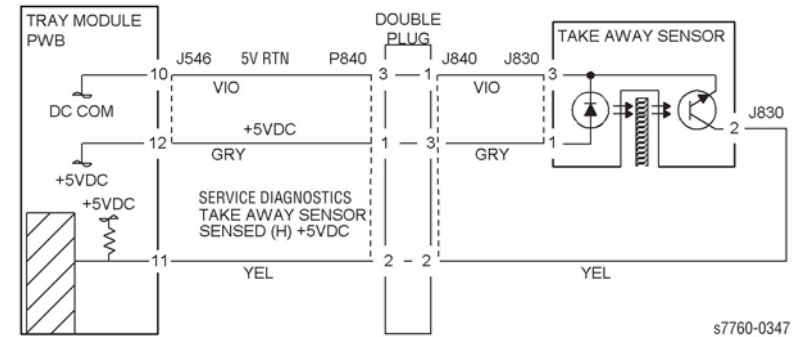
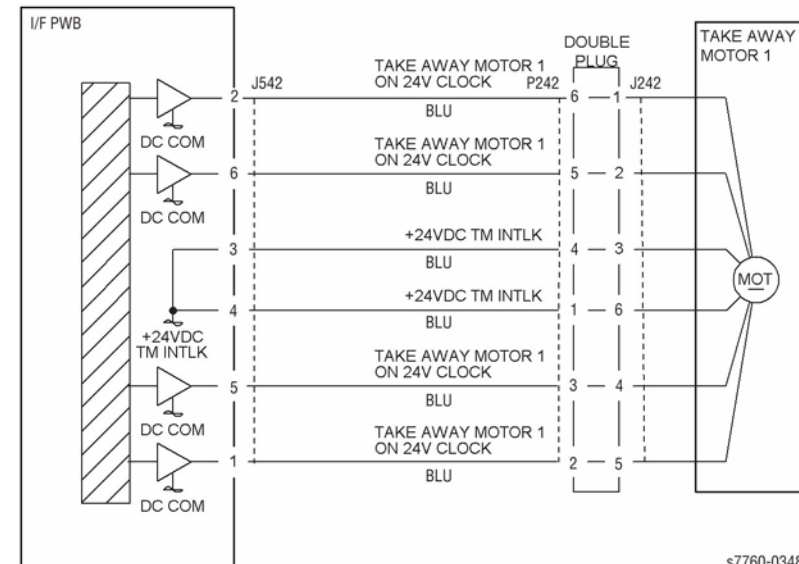

Figure 1 008-151 Takeaway Sensor
Figure 2 008-151 Takeaway Motor 1
- Ensure that the connectors shown in the circuit diagrams (Figure 1, Figure 2) are securely connected and that the wires are not damaged.